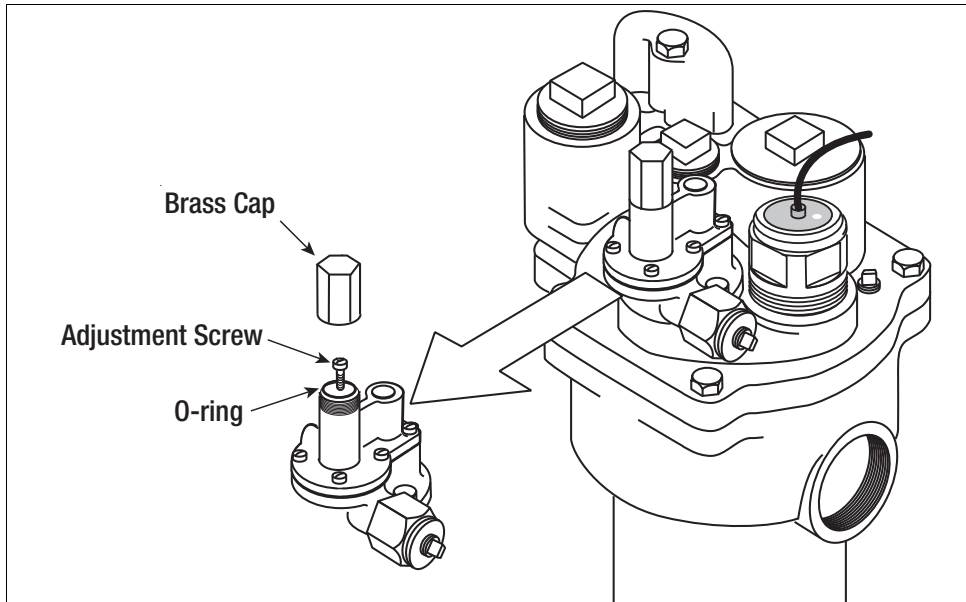

Figure 26. Pressurstat Adjustable Valve Assembly (Red Jacket Standard Pump Shown)
1. Unscrew the protective brass cap from the adjustment screw (Figure 26).